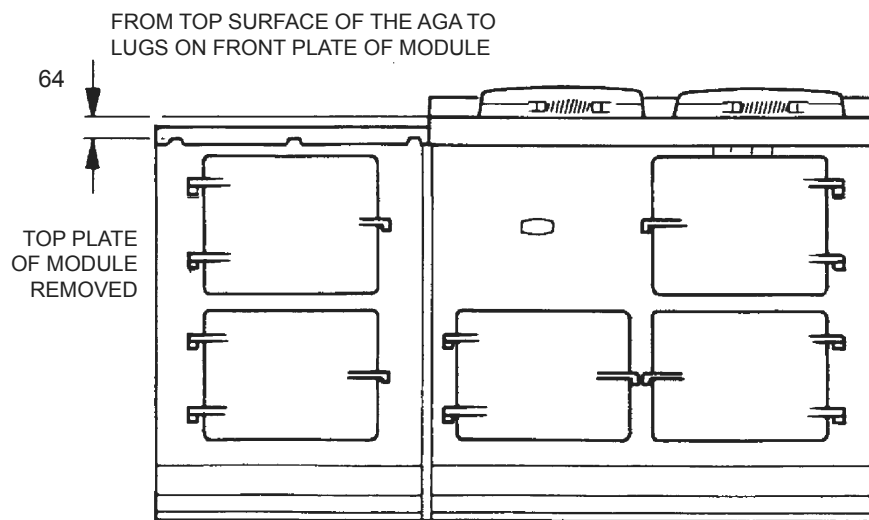

Fig. 9.2
8. Levelling of the simmering plate on the main cooker can be carried out with its top plate in position and verified across to the Module (see **Fig. 9.2**).